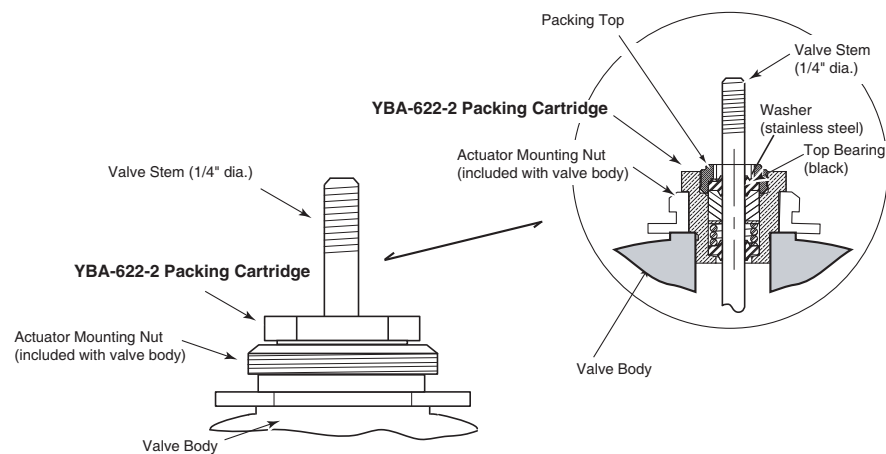

Figure-1 Installation of YBA-622-2 Complete Packing Cartridge into 1/2" to 2" VB-7xxx and 1/2" to 1-1/4" Obsolete VB-9xxx Valves.
- YBA-622-2 can be distinguished from earlier versions by its stainless steel backup washer and black top bearing (refer to Figure-1 ).
*Note:* Packing top (see Figure-1) must be threaded **only one turn** into cartridge before sliding over valve stem